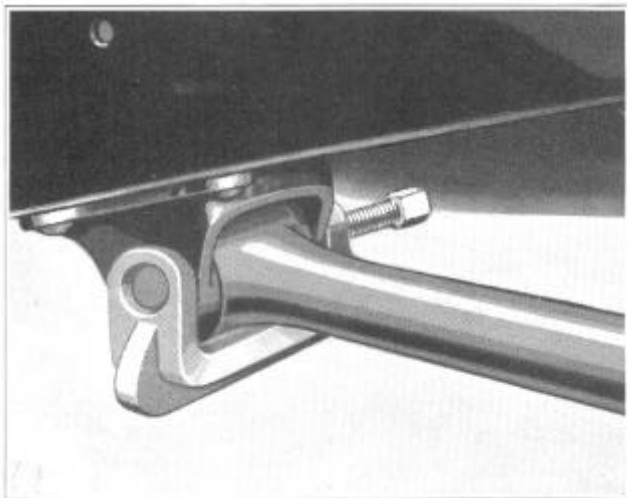

Figure 2
(75), remove nuts and press out bolts, using press J-885, Figure 2.